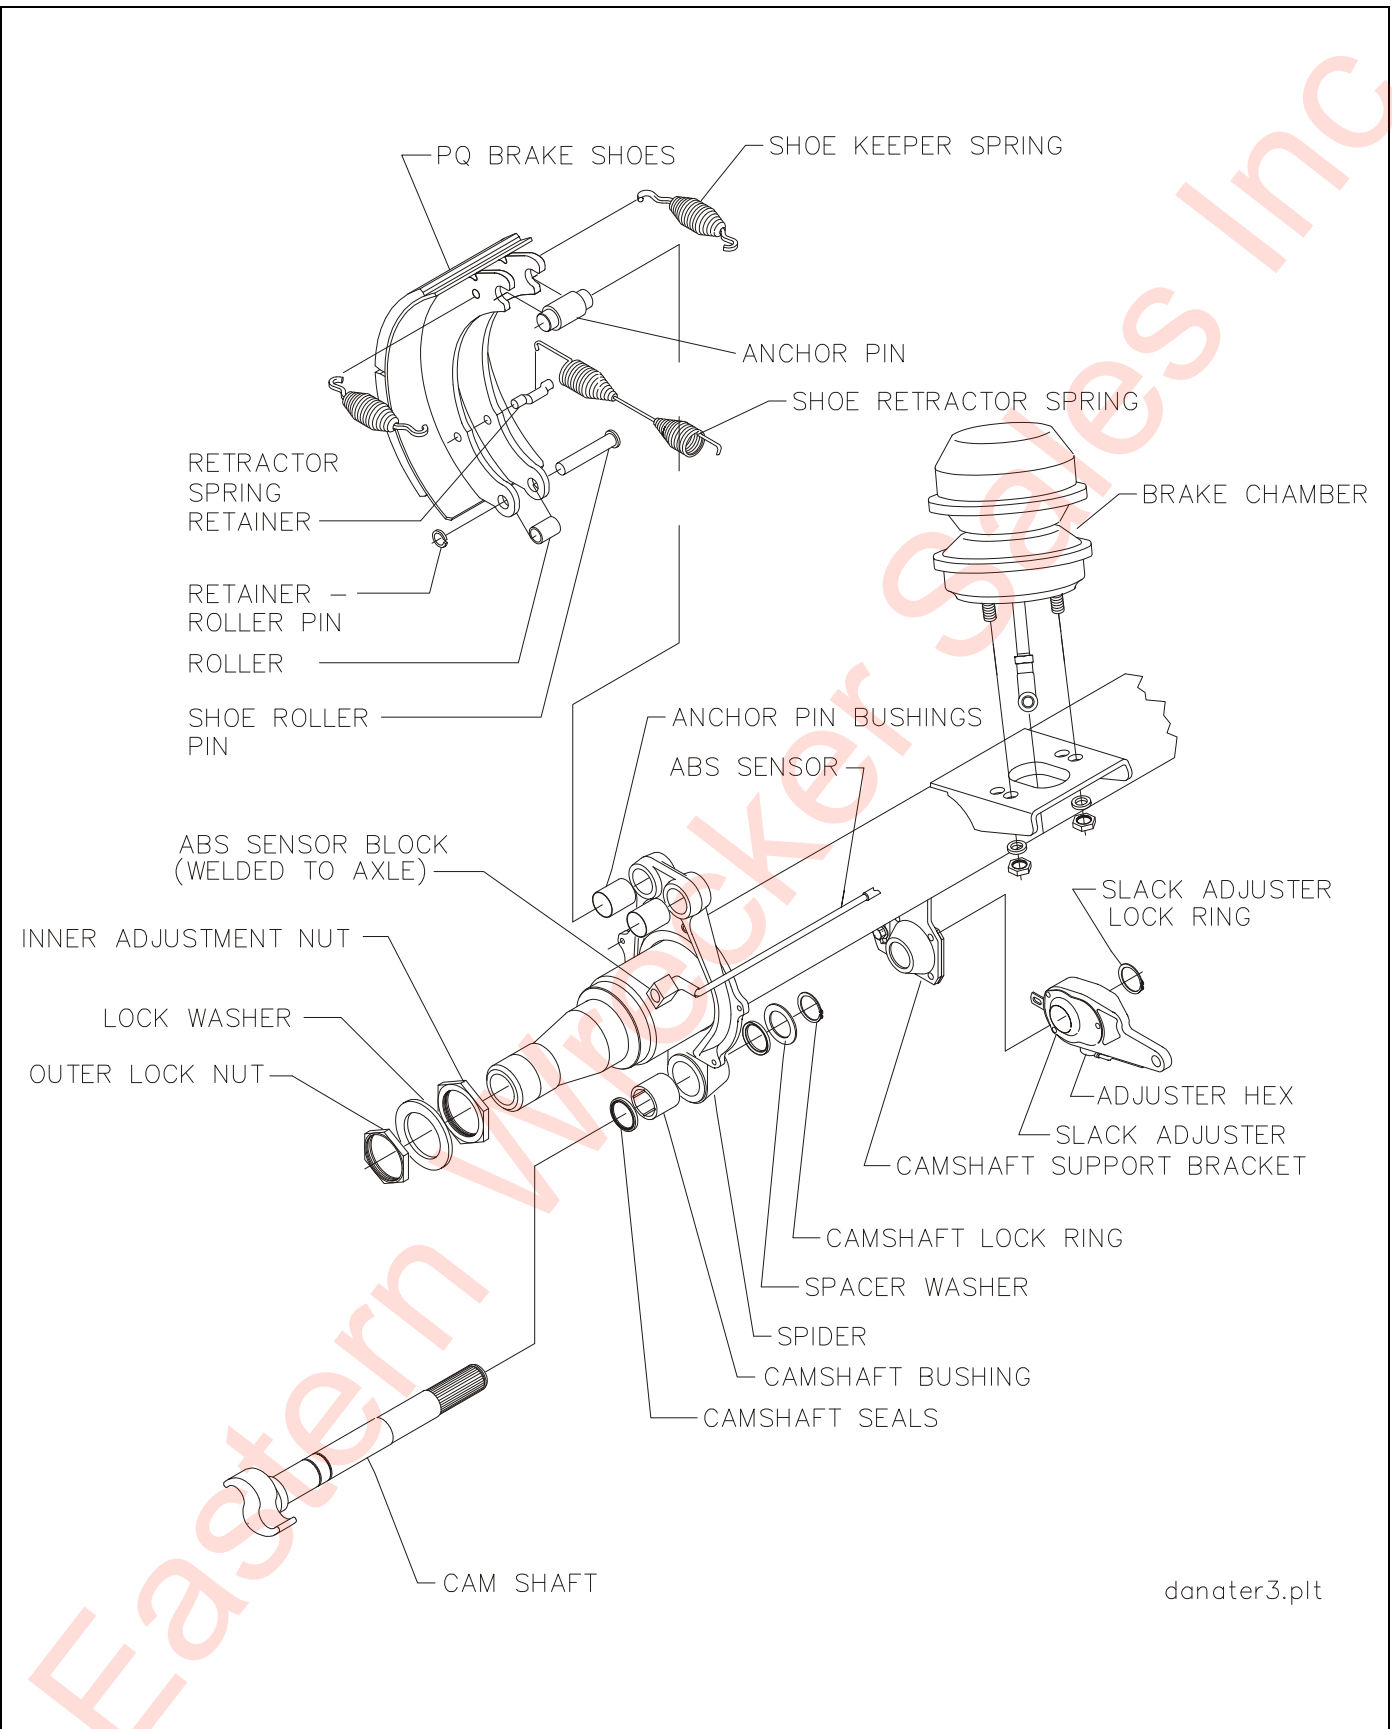

Figure 4-13: Axle and Brake Assembly
1. Release brakes and back off slack adjuster (See Figure 4-13.)
1. Install new anchor pin bushings, camshaft bushing and camshaft seals into the spider (See Figure 4-13.)